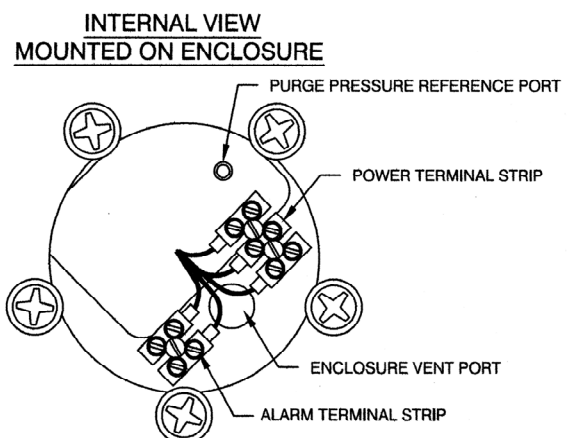

Figure 4
- Primary exhaust vent is an integrated part of the Z – Purge Indicator casing. (Refer to Figure 4)
- Dry contact output for remote monitoring is supplied as standard. Contact open on alarm (Standard). Contact closed on alarm (Optional). Order optional contact closed on alarm by adding an “X” at end of Purge Solutions, Inc. model number. (Refer to Figure 4)